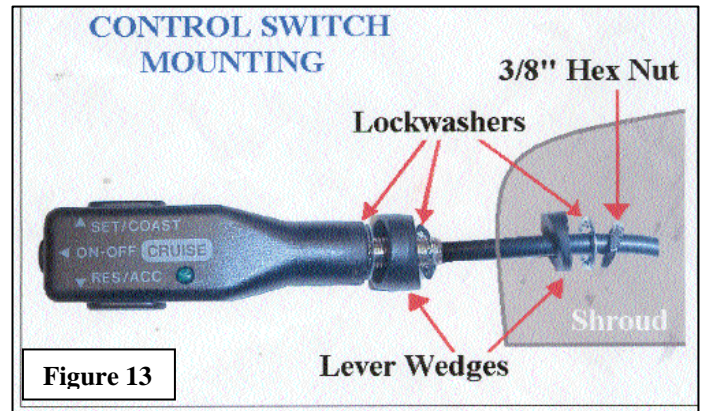

Figure 13
1. Use the **lever wedges** on the **Control Switch** at an angle template to drill a 3/8" or 9.5mm hole in the lower shroud of the steering column cover. Position lock-washers as shown. **Figure 13**